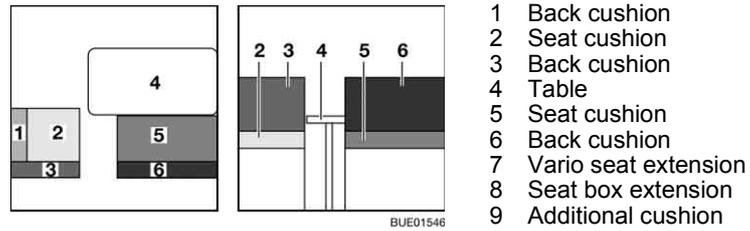

Fig. 142 Prior to conversion
- Convert the table (Fig. 142,4) to a bed foundation (see section 6.12).
- Remove the back cushion (Fig. 142,1) and lay it aside.